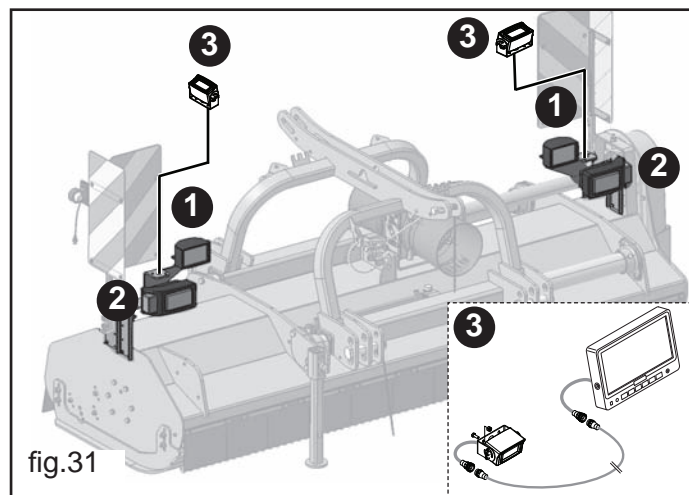

fig.31
When the dimensions of carried or partially-carried equipment conceal the tractor's signalling and lighting devices, these must also be installed on the equipment itself, in conformity with regulations of the highway code of the country involved. When in operation make sure that the lighting system is in perfect working order. The transport on the road must be done with light (1 fig.31) turned off. The orientation of the light (2 fig.31) must be done in conformity with regulations of the highway code of the country involved.
4.12.4 CAMERAS WITH MONITOR KIT (TO BE ASSEMBLED TOGETHER WITH FRONT LIGHTS KIT) (3 fig.31)